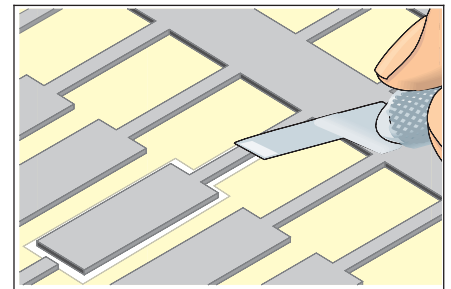

Figure 4 Cut out the new surface mount pad.
10. Cut out and trim the new pad. Cut out from the plated side. Cut the length to provide the maximum allowable circuit overlap for soldering. Minimum 2 times the circuit width. (See Figure 4.)